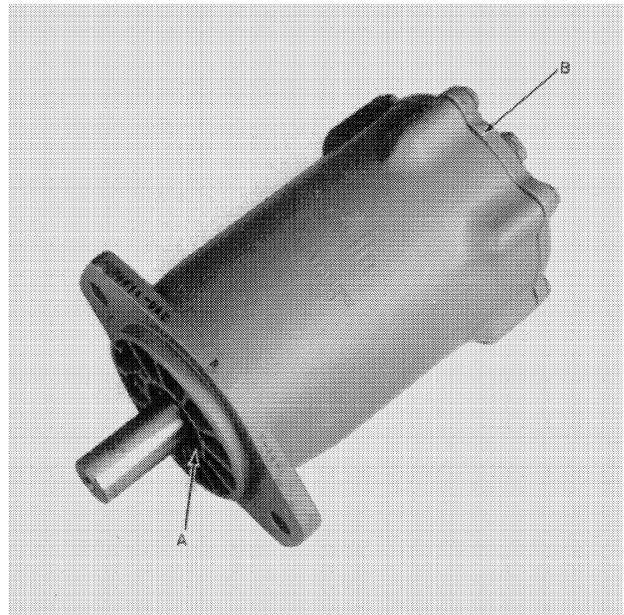

FIGURE 1-22
2. Remove the retaining ring from the housing assembly at A, Figure 1-22.